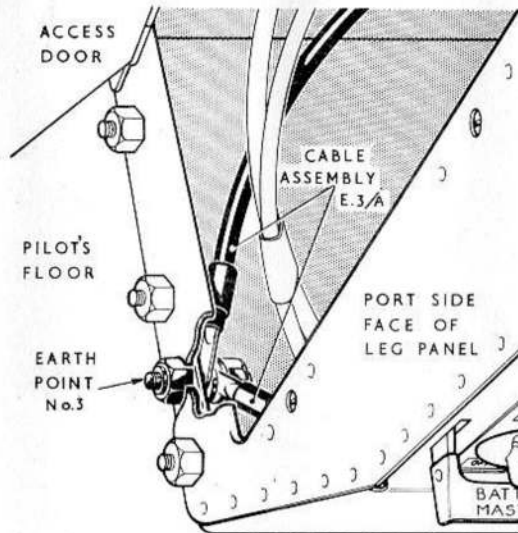

FIG.3 EARTH POINT No.3
- (5) Disconnect cable assembly E3/A from earth point 3, obtaining access via the hinged door in the port side of the leg panel (fig. 3).
- (6) Disconnect all the plugs and sockets on the cable assemblies at the leg panel. Seal off the plugs and sockets with approved caps and covers and stow the cable assemblies away from the panel.
- (7) Release the leg panel from its mountings by removing the nine bolts from around the bottom forward, and side faces of the panel. Remove the leg panel from the cabin, complete with cable assemblies F31 and E3/A.